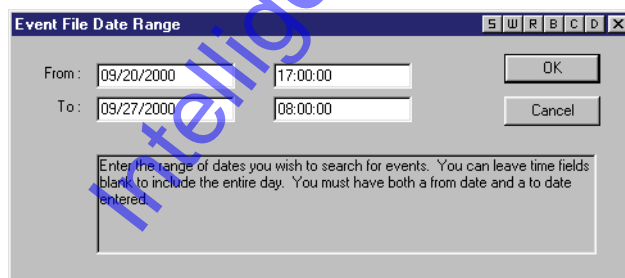

Figure 7-2: Event File Date Range Window
2. Click on the name of the report you want to see. For this example, click on the **Time In Building: Summary** report. Since this is an event report, the Event File Date Range window will appear (see Figure 7-2). If you select a system parameters report, skip to step 7.
4. In the From field, enter the beginning date and time for reporting events. If the time field is left at the default of 00:00:00, the events from the beginning of the day (Midnight) are reported. For example, to report on events beginning on September 20, 2000 at 17:00 hours, double-click in the From date field and type **09/20/2000**. Double-click in the From time field and type **17:00:00** (see Figure 7-2).
5. In the To field, enter the ending date and time for reporting events. If the time field is left at the default of 23:59:59, the events from the entire day are reported. For example, to report on events ending on September 27, 2000 at 08:00 hours, double-click in the To date field and type **09/27/2000**. Double-click in the To time field and type **08:00:00** (see Figure 7-2 on page 3 of this section). Click on the  button.
6. If there is no data that meets the date range you have entered, an empty report warning window appears (see Figure 7-3). Click on the  button and modify the date selection in the Event File Date Range window (see Figure 7-2 on page 3 of this section).